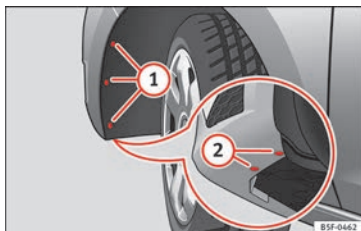

Fig. 214 Fog light: access to the connector and to the light bulb holder.
- Remove the 3 bolts **1** » **Fig. 214** from the inside of the wheel housing and the 2 bottom bolts **2** » **Fig. 214** from the bumper with the help of a screwdriver.